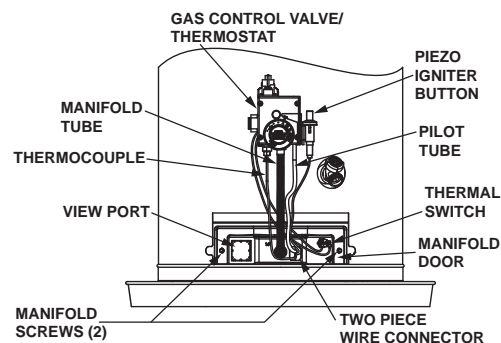

FIGURE 23.
2. On the lower front of the water heater locate the gas control valve/thermostat (see Figure 23). Before performing any maintenance, it is important to turn the temperature dial on the gas control valve/thermostat to its lowest setting.
5. Remove the two screws securing the manifold door assembly to the combustion chamber (Figure 23).